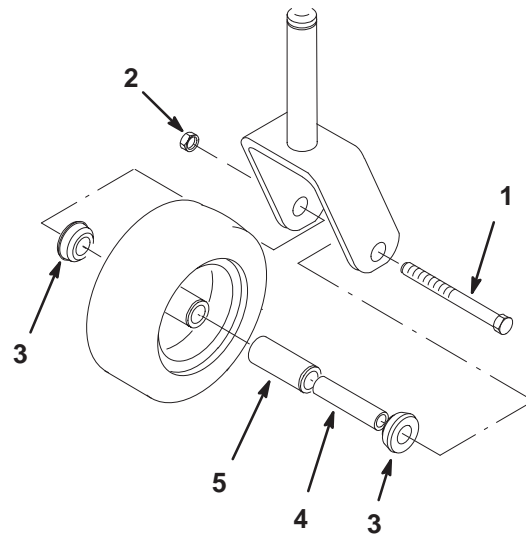

Figure 61
- Remove the locknut and wheel bolt holding the caster wheel to the caster fork (Fig. 61).
- Remove one bushing, then pull the spanner bushing and roller bearing out of the wheel hub (Fig. 61).
- Remove the other bushing from the wheel hub and clean any grease and dirt from the wheel hub (Fig. 61).
- Inspect the roller bearing, bushings, spanner bushing and inside of the wheel hub for wear. Replace any defective or worn parts (Fig. 61).
- To assemble, place one bushing into the wheel hub. Grease the roller bearing and spanner bushing and slide them into the wheel hub. Place the second bushing into the wheel hub (Fig. 61).
- Install the caster wheel into the caster fork and secure with the wheel bolt and locknut. Tighten the locknut until the spanner bushing bottoms against the inside of the caster forks (Fig. 61).